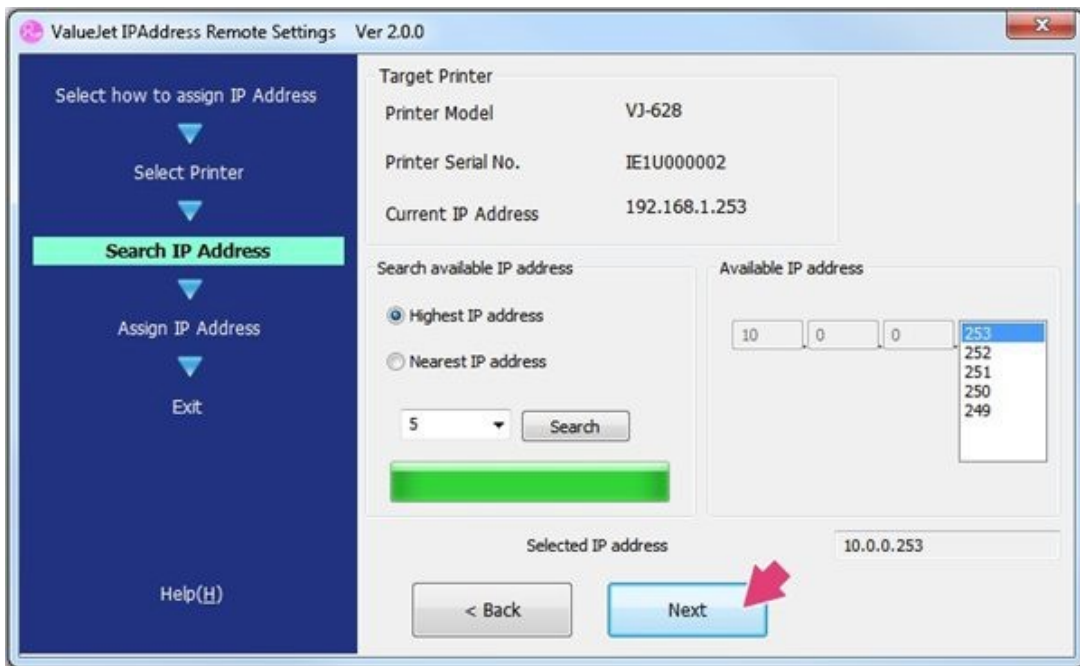

Figure 24
11. Select **Next** to continue. See Figure 24.